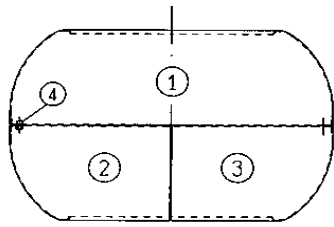

Fig. 10A
- Disassemble the part 3 of the shield (fig. 10A-B);